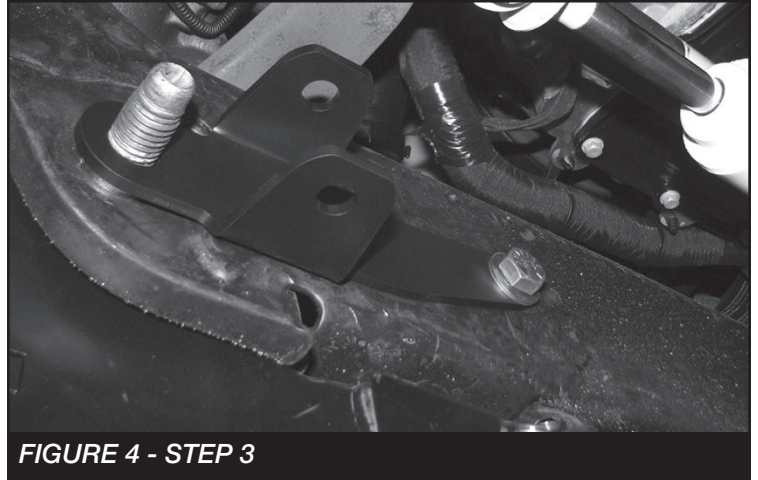

FIGURE 4 - STEP 3
3. Install the supplied 1/2" x 4-3/4" bolt and hardware through the frame and new bracket. Torque the crossmember bolt to 160 ft-lbs and 1/2" to 106 ft-lbs. **SEE FIGURE 4**